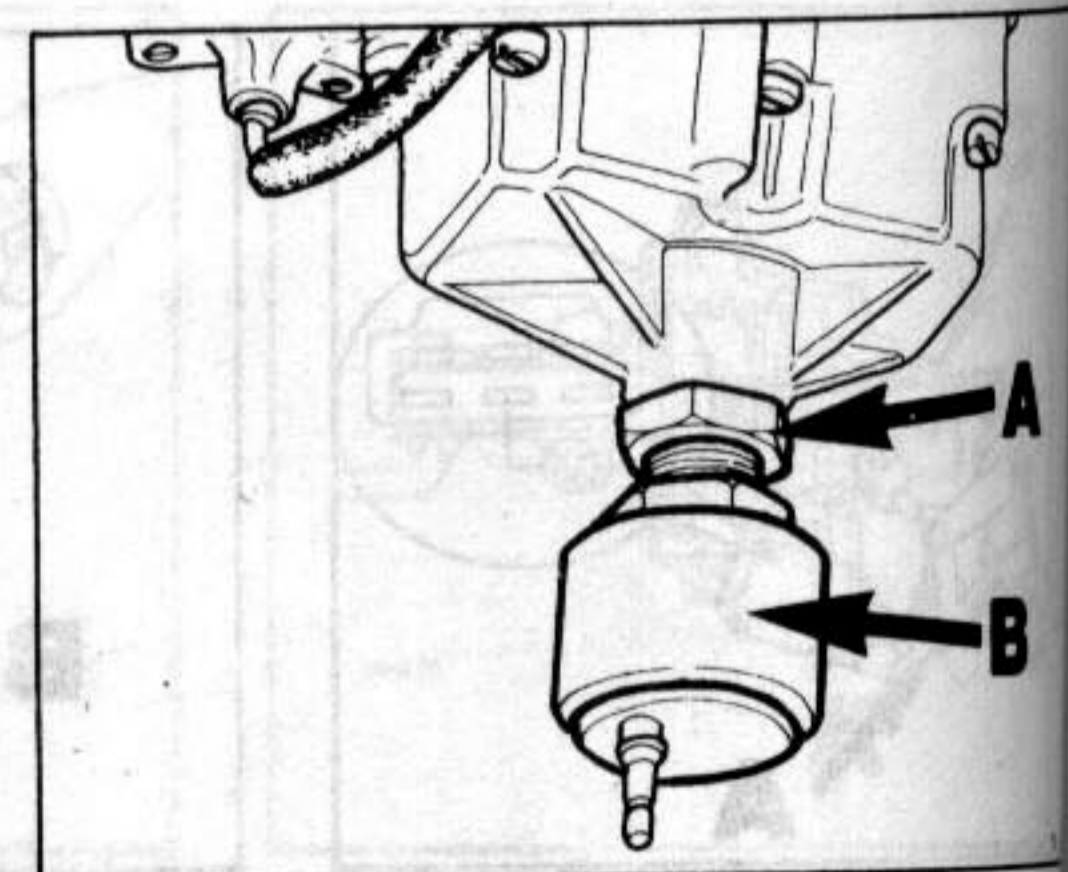

Fig. 3 Idle mixture adjustment
- If outside specified limits, slacken locknut (A, Fig. 3) and turn idle shut-off valve (B) in appropriate direction to achieve correct setting.